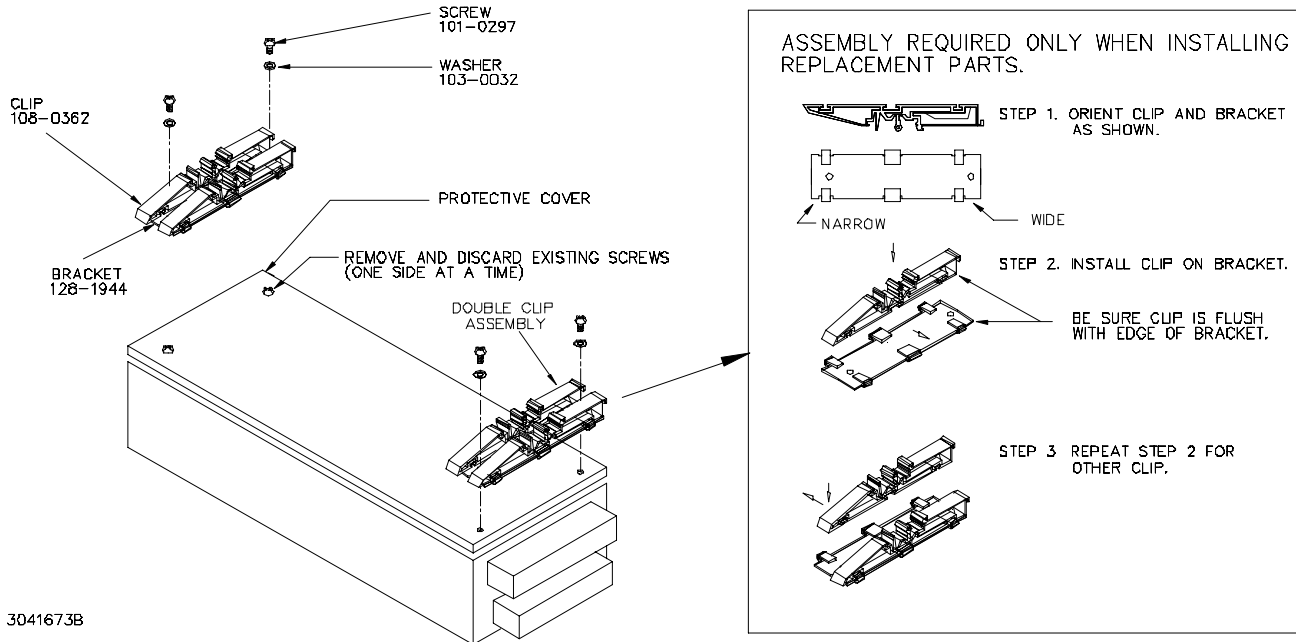

FIGURE 2. INSTALLING CLIPS ON PROTECTIVE COVER
NOTE: Clips and Brackets are supplied preassembled into double mounting clip assemblies. To replace a mounting clip assembly, order both the clip and bracket and assemble per Figure 2 detail.
### 1. INSTALL CLIPS (See Figure 2).
- a. Remove two screws securing one side of the protective cover (see Figure 2). Discard screws
- b. Install double clip assembly on protective cover as shown in Figure 2 using two screws and washers provided. If desired, angular side of clip assembly can face in opposite direction from that shown, but both clip assemblies must face in the same direction.